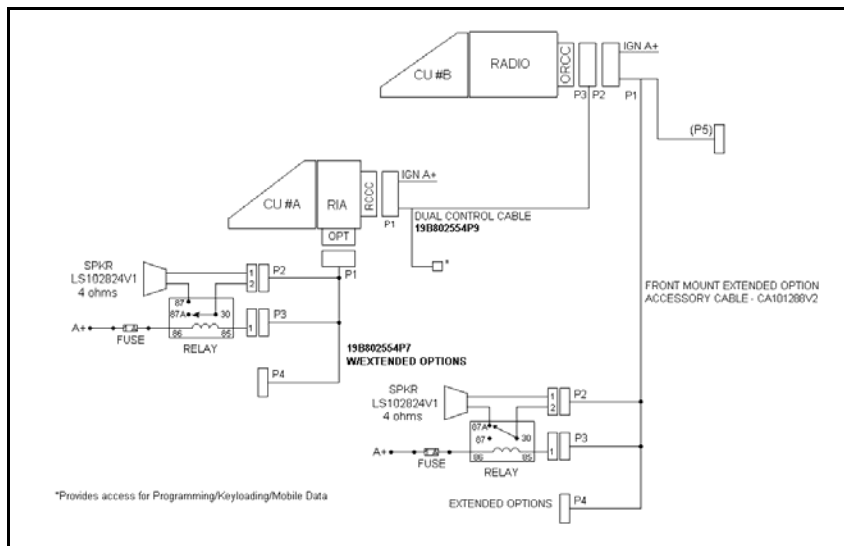
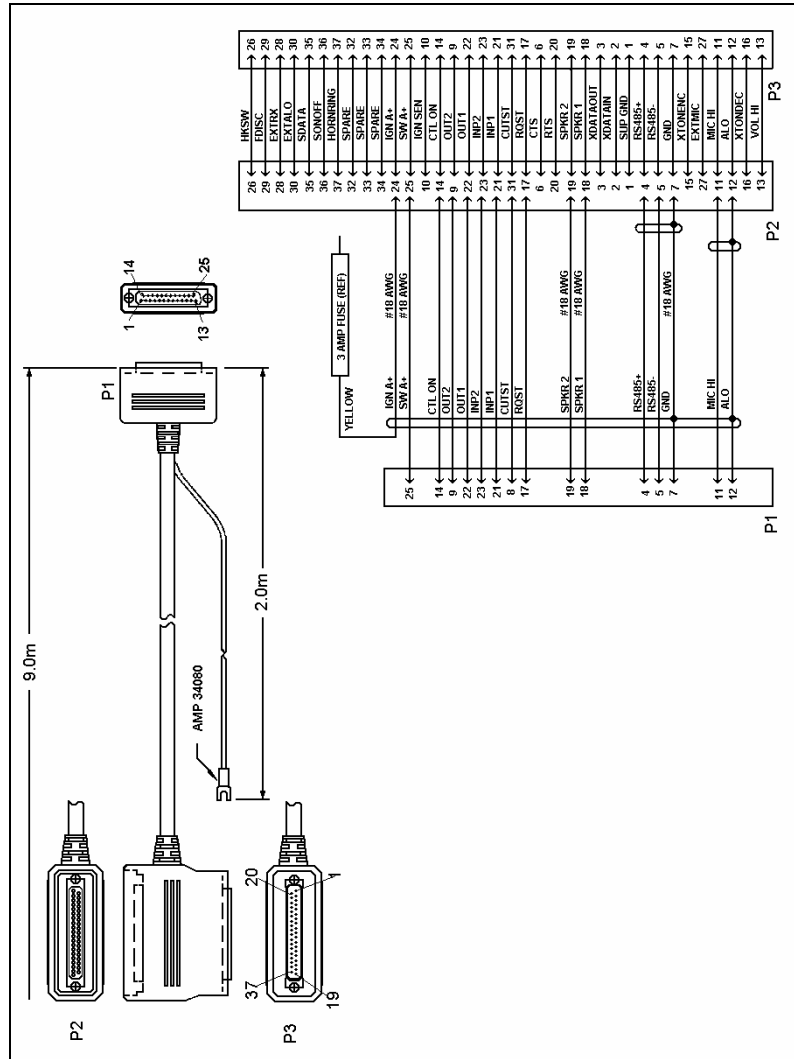

Figure 11-6: M7100 Dual Control Unit Front/Remote Mount Installation Configuration
Figure 11-8: Dual Control Cable 19B802554P9
1. Referring to Figure 11-6, run the Dual Control Cable (19B802554P9 – see Figure 11-8) between locations for the Radio Unit and Auxiliary Control Unit. Be sure to locate the P2/P3 connector assembly at the Radio Unit.
- B. Hardwire each speaker directly (without relays) as shown in Figure 11-6.
9. Radio Unit Speaker: Connect the lead nearest the speaker to **Pin 87A** of the relay. Connect the lead nearest the connector to Pin 30 of the relay. Connect the connector to the Accessory Cable P2 (refer to Figure 11-6).
10. Auxiliary Control Unit Speaker: Connect the lead nearest the speaker to **Pin 87** of the relay. Connect the lead nearest the connector to Pin 30 of the relay. Connect the connector to the Accessory Cable P2 (refer to Figure 11-6).
11. For each relay: Connect a #18 AWG black wire between the relay, Pin 85 and Accessory Cable P3-1 (labeled **"OUT2"** on the schematic diagrams in the service manual). Use a 1/4" tab receptacle on the relay side and mating Molex connector and pins on the accessory cable side. Connect the mating Molex connector to the Accessory Cable P3 when finished (refer to Figure 11-6).
12. For each relay: Connect a #18 AWG red wire to the relay, Pin 86. Cut to length, and connect to the 1A fuse holder (supplied). Use crimp on connectors supplied. Connect the other side of the 1 amp fuse holder to A+ battery source or vehicle A+ fuse block. Use #18 AWG red wire and ring lug supplied, if needed (see Figure 11-6).
2. Run the Dual Control Cable (19B802554P9 – see Figure 11-8) between locations for the Radio Unit and Auxiliary Control Unit. Be sure to locate the P2/P3 connector assembly at the radio unit.